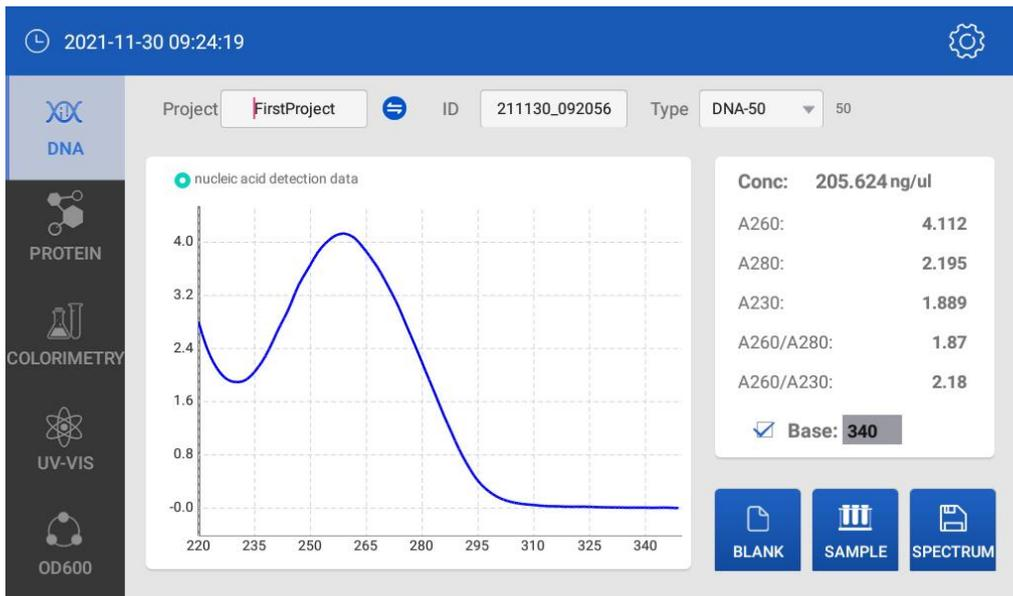

Fig 4.4 Measurement result
(2) Operation steps:
- ① Set the project name and sample No.:
- ② Blank with TE buffer: add 2ul TE buffer on the lower pedestal, lay down the upper pedestal and start to “Blank”.
- ③ Clean the pedestals by a dust free cloth after blank.
- ④ Add 2ul sample onto the lower pedestal, lay down the upper pedestal, and press the “sample” button to measure. Fig 4.4 will show on the display after completing measurement,
(3) from Fig 4.4, we can see the detection result by data as Fig 4.5